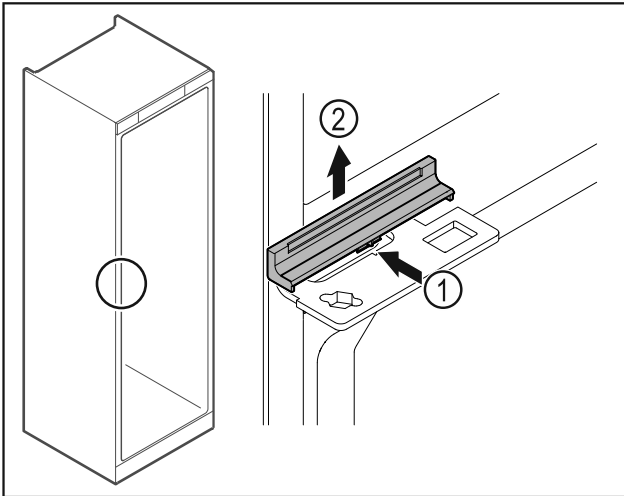

Fig. 40
- ▶ Gently press the middle of the cover Fig. 40 (1) and lift it off Fig. 40 (2).